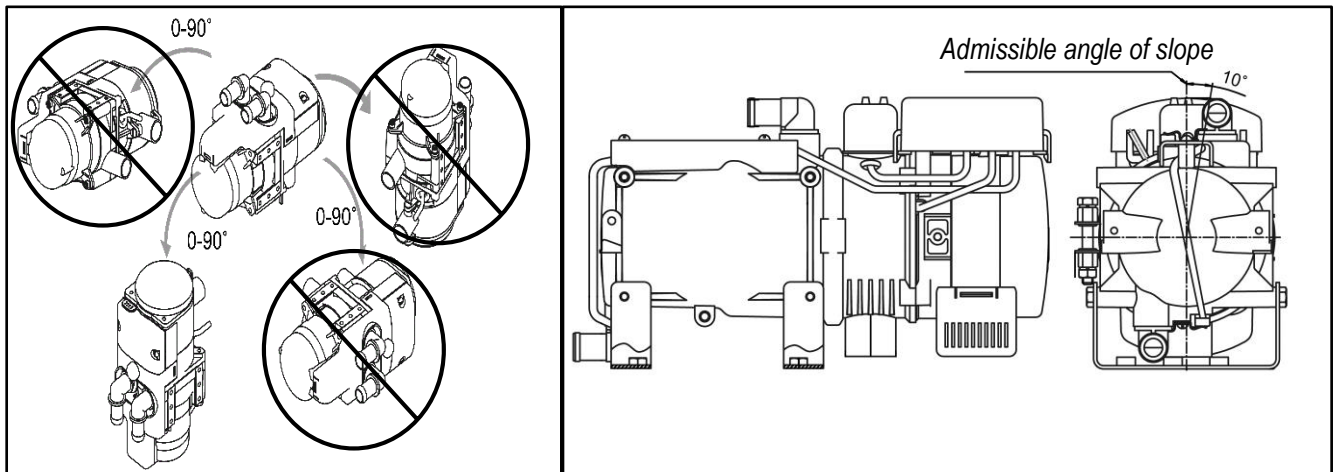

Fig. 1 - Mounting positions of the heaters
Install the heater, taking into consideration the permissible operating position according to Fig.1. Take into account the possible heel of the vessel, if installing on maritime transport.
When the heater is positioned with the exhaust pipe facing downwards, it is considered the 0° position. FLOW-5D and FLOW-5B have only two mounting positions – 0° and 90° with the air pump pointing upwards. **The FLOW-14D should not be tilted (see Fig.1).**
**WARNING!!! The reliable operation of the heater depends on the correct installation! The heater must be installed according to Fig.1.**